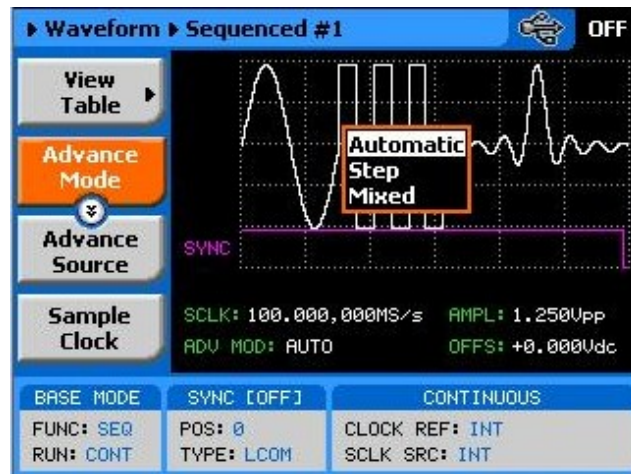
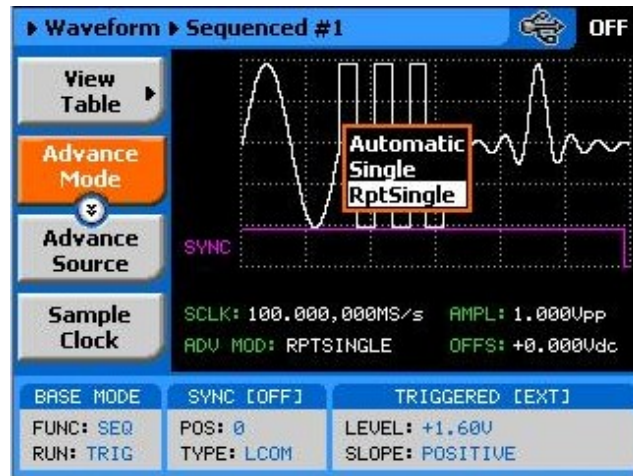

Figure 3-20, Sequence Advance Options, Continuous Run Mode
Figure 3-21, Sequence Advance Options, Triggered Run Mode
1. Refer to Figure 3-20 and select the Advance Mode with the appropriate soft key. The advance mode options, as shown in Figure 3-20 will display. Use the dial or arrow keys to scroll down to the required mode and press Enter to lock in the selected mode.
The operating mode of the instrument, as selected from the Run Modes menu, affects the way that the 1281A lets you access the sequence advance mode parameter. If you are in continuous mode, as shown in Figure 3-20, you can select one of: AUTO, STEP, or MIXED. If you already selected the triggered run mode, you'll be able to select from AUTO, or SINGLE only as advance modes, as shown in Figure 3-21.